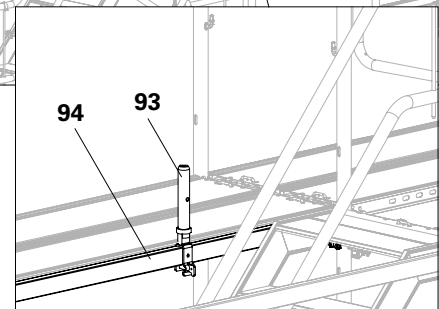

Fig. B8.11a
2. Attach the UH Spigot-2 (**93**) to the horizontal ledger so that the wedge can be secured from the outside. (Fig. B8.11a)